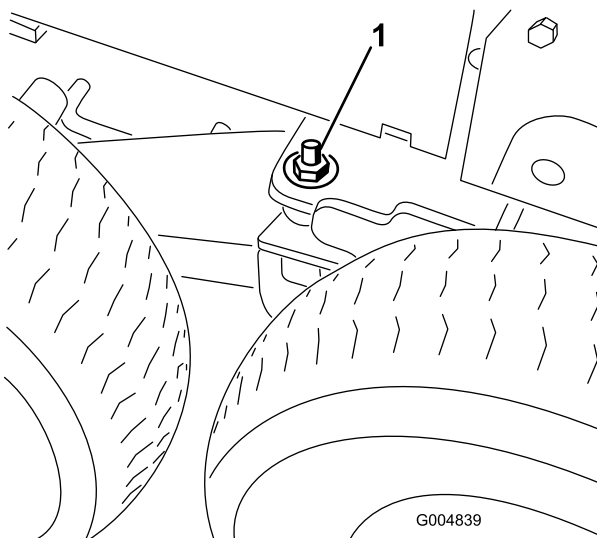

Figure 76
7. Remove the 1/2" locknut and flat washer from the left and right bogie pivot weldment to unlatch the pivot (Figure 76).
locknut can be installed on the stud and threaded finger tight on both sides of the machine (Figure 76).